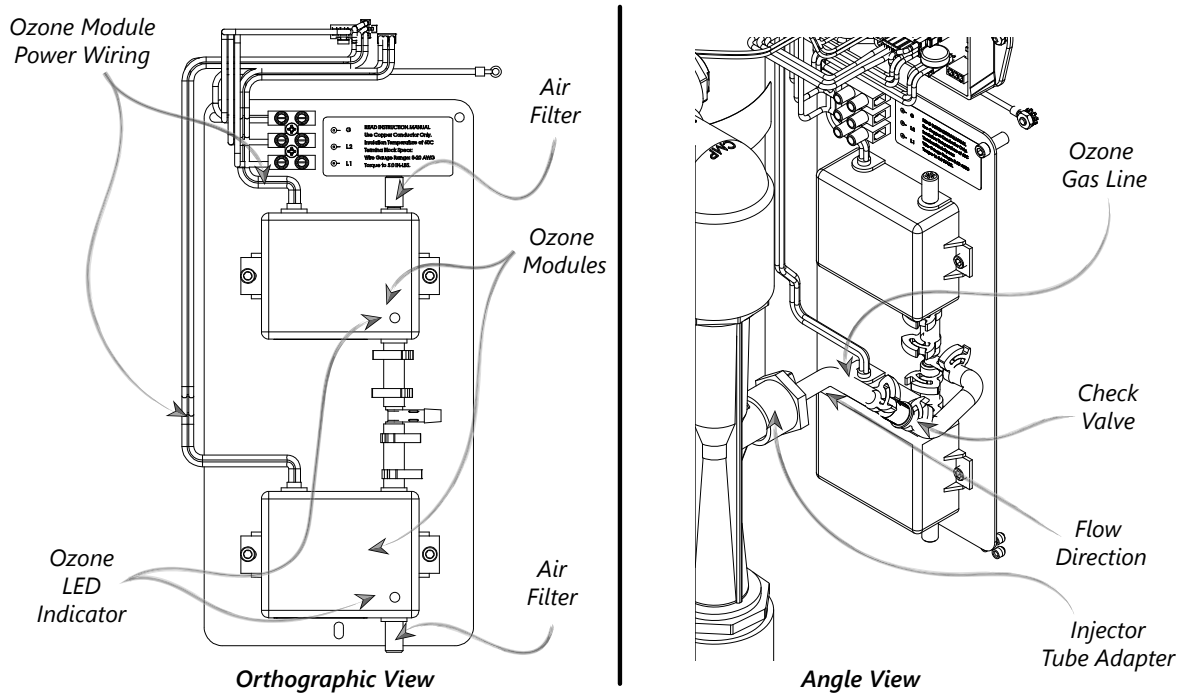

Figure 10: Ozone Generator System Overview
8. Reset ozone indicator by pressing the reset ozone button on the inside door behind the Smart Status indicators. (Fig 10)
5. Reset UV indicator by pressing the reset UV button on the inside door behind the Smart Status indicators. (Fig 10)